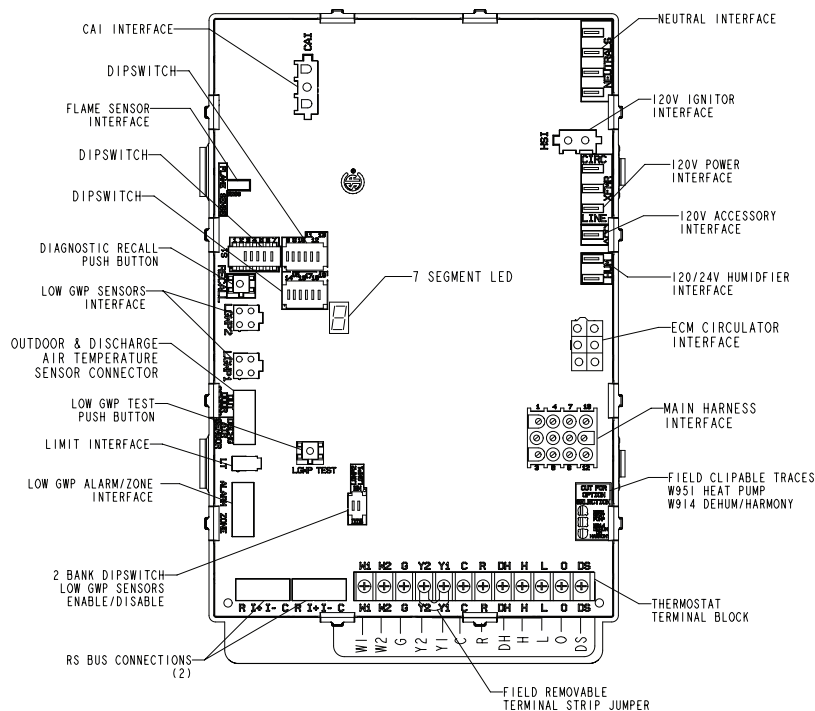

FIGURE 56
of the circuit being connected to one of the provided neutral terminals. See FIGURE 56 for location of terminal. This terminal is energized when the indoor blower is operating.
- 8 - One line voltage "HUM" 1/4" spade terminal is provided on the furnace integrated control. Any humidifier or other 120V accessory rated up to one amp can be connected to this terminal with the neutral leg of the circuit being connected to one of the provided neutral terminals. See FIGURE 56 for location of terminal. This terminal is energized in the heating mode when the indoor blower is operating.
- 9 - One 24V "H" terminal is provided on the furnace integrated control terminal block. Any humidifier rated up to 0.5 amp can be connected to this terminal with the ground leg of the circuit being connected to either ground or the "C" terminal. See FIGURE 56 for location of terminal.